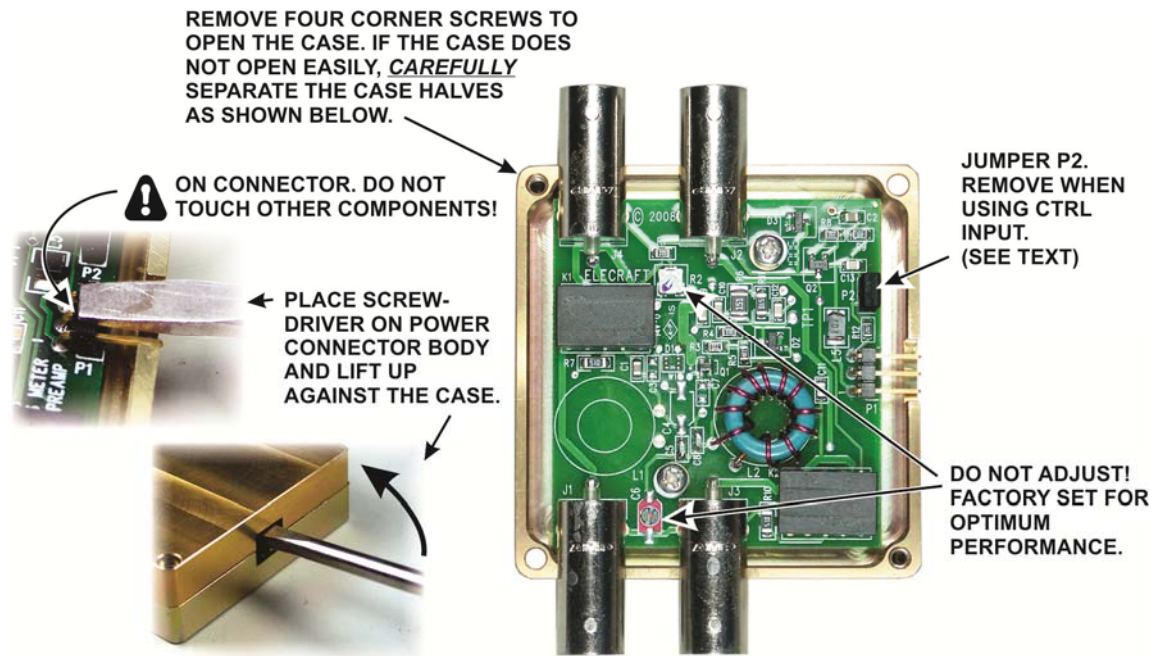

Figure 3. Jumper P2 Location.
When the control (CTRL) is used and jumper P2 is removed (see Figure 3), the K3 may be configured so that the preamplifier is switched on only when the 10 meter band is selected. Since power is switched off on other bands, the bypass connections are active and the preamplifier does not draw power. Configure the K3 as follows:
If the control (CTRL) line is not used and jumper P2 is installed (see Figure 3), the PR10 will be switched into the circuit when the RX ANT button is pressed. The bypass antenna connections are not available unless power is removed from the PR10.
- The preamplifier is switched into the circuit by applying +12 VDC to the unit if jumper P2 is installed or, if jumper P2 is removed, by applying +12 VDC and grounding the CTRL input. Jumper P2 is shown in Figure 3.